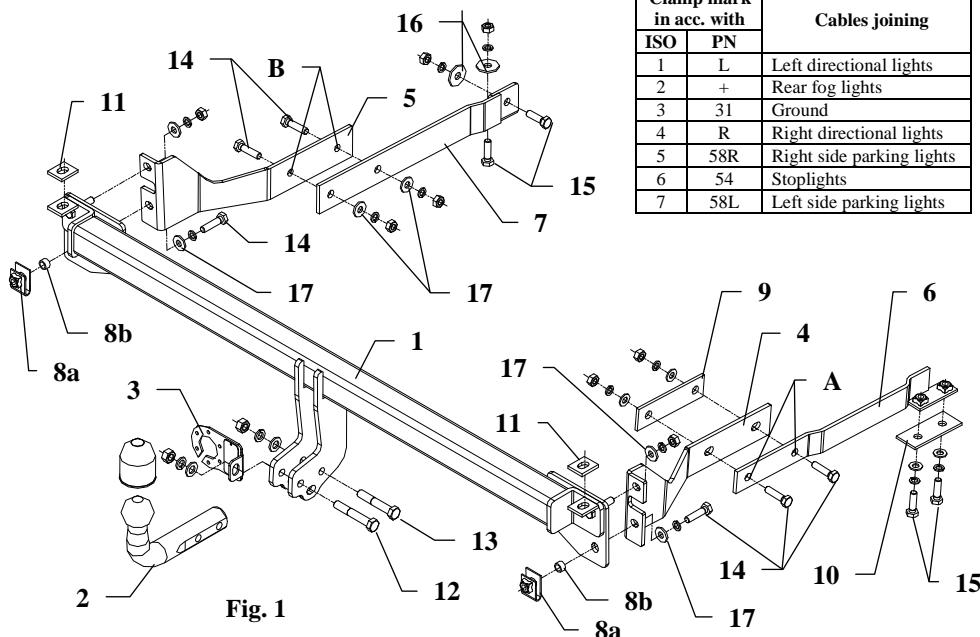

Fig. 1
6. To the in this way prepared towbar fix main bar of the towbar (pos. 1). For that use bolts M8 after handles disassembly and nuts M8 are supplied with towbar (pos. 24). If You will feel over-stress on the reinforcement use additional elements (pos. 11) from accessories.
- protruding bolts M10 from main bar (pos. 1) put through drilled holes in rear wall of a car's body,
- inside a trunk, on protruding bolts put brackets: pos. 5 – left side and pos. 4 – right side, then fix as shown in the figure 1.
9. Fix the bracket pos. 6: a) remove rubber plug from chassis member in point where longitudinal member touch cross member; b) put bracket pos. 6 from trunk's side in this way so holes pos. A of the bracket be at one with holes in right arm (pos. 4), fix using bolts and fish-plates pos. 9 and 10 as shown in the figure 1.
10. Fix the bracket pos. 7:
- b) through holes pos. B of the bracket pos. 5 drill holes using bit ø11mm,
- c) underneath the car fix brackets pos. 5 and 7 through drilled holes using bolts M10x40mm (pos. 14),
- d) through two rest holes in the bracket pos. 7 drill holes using bit ø11mm and fix all using bolts M10x35mm (pos. 15).
11. Fix tow-ball (pos. 2) with socket plate (pos. 3) using bolts M12x75mm (pos. 12) and M12x70mm (pos. 13) from accessories. On first fix also socket plate (pos. 3). See figure.